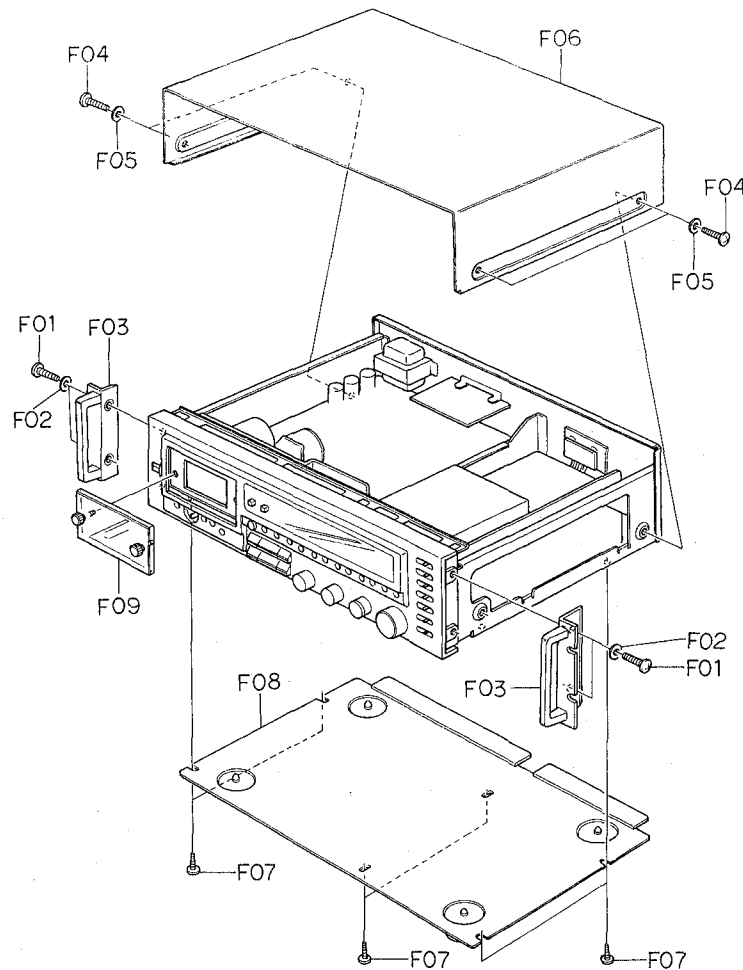

Fig. 3.1
Refer to Fig. 3.1.
(1) Refer to Fig. 3.1. Remove Top Cover Ass'y and Bottom Cover Ass'y referring to items 3.2 and 3.3.
(2) Pull out F01 (Volume Knob A), F02 (Volume Knob L), F03 (Volume Knob R), F04 (Volume Knob B) and F05 (Pitch Control Knob).
(3) Remove F06, then disassemble F07 (Front Panel Ass'y including 2 connectors).
- (1) Refer to Fig. 3.1. Remove Top Cover Ass'y and Bottom Cover Ass'y referring to items 3.2 and 3.3.
- (2) Remove F01 and F02, then disassemble F03 (Rear Panel Ass'y).
- (2) Remove F04 and F05, then disassemble F06 (Power Transformer).
- (3) Remove F08 and F09, then disassemble F10 (Fuse P.C.B. Ass'y).